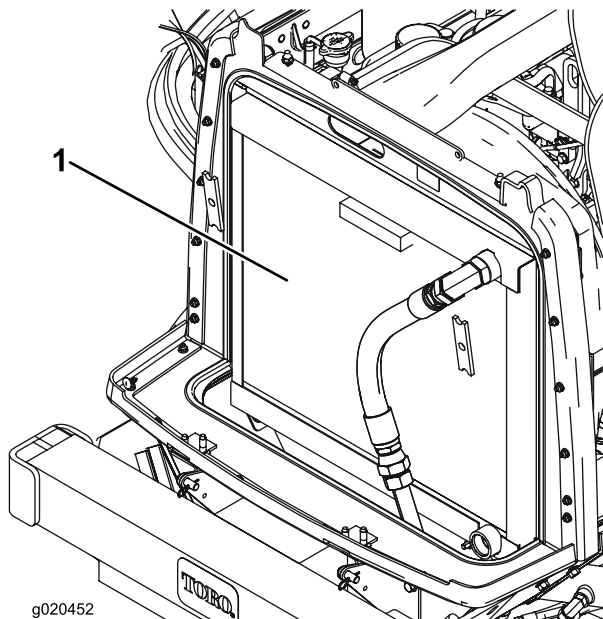

Figure 65
2. Clean both sides of the radiator/oil cooler area (Figure 65) thoroughly with compressed air. Start from the fan side and blow the debris out towards the back. Then clean from the back side and blow towards the front. Repeat procedure several times until all chaff and debris is removed.